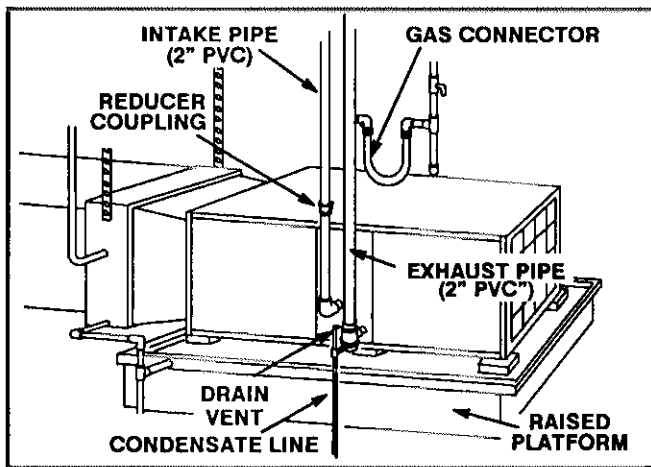

FIGURE 15
- 3- Set unit in drain pan, using six isomode pads (provided) as shown in figure 15. Unit must be level to ensure proper coil drainage.